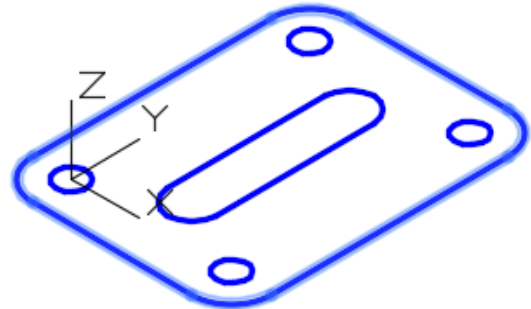

Figure Step 8
Step 8 Enter the JOIN command, as shown below, to create a single 2D polyline from the 8 lines and arcs. (Figure Step 8)